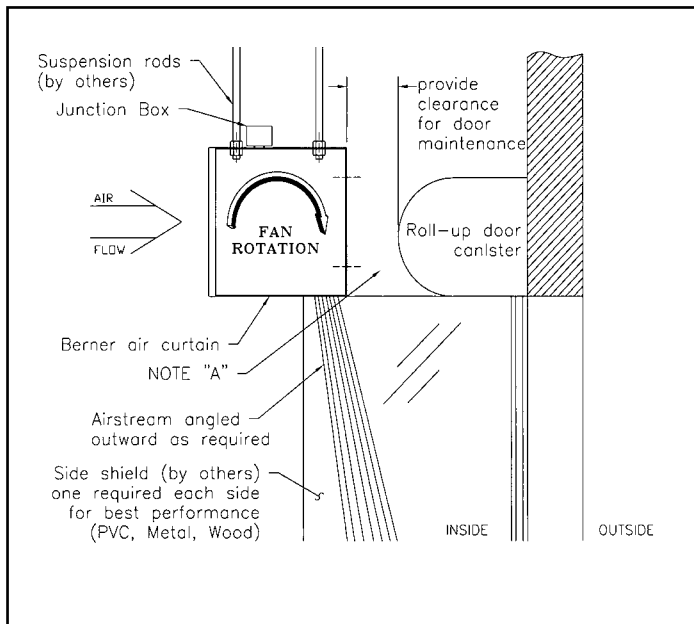

FIGURE 1 - Roll-Up Door
- B. **IMPORTANT** See Figures 1-6. The unit should be mounted level with the top of the door opening or level with the side of the opening (for vertical mount). The outlet nozzle shall be located no more than 1" above the top/side of the opening. If the air curtain must be mounted higher, then it must be spaced out from the wall  $\frac{3}{8}$ " for every inch the unit is above the opening (4.5" per foot). If the unit is mounted 6" or more away from the opening, side shields are recommended See Figure 1.